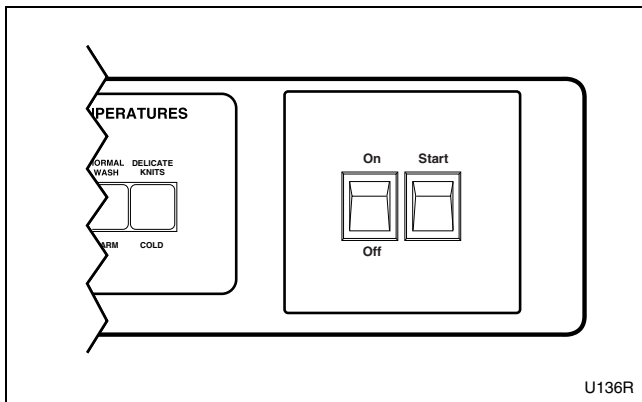

Figure 9
**For non-coin models:** Press the Start button. Refer to *Figure 9*.